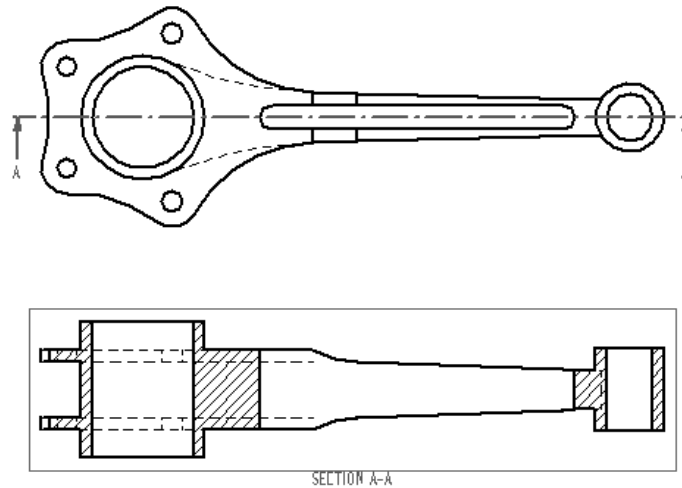

Figure 12-12 The shaded top view and the front section view
7. Select the cutting plane and place the section drawing view parallel to the cutting plane at the desired location on the drawing sheet. A simple section view is shown in Figure 12-12.